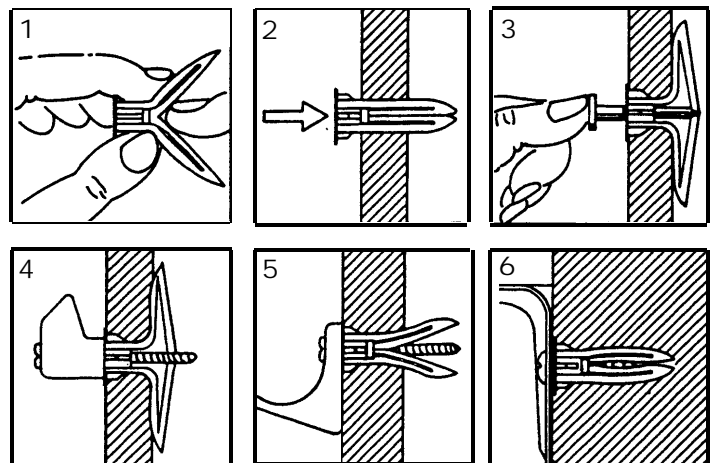

Figure 2-13. Screw Anchor Installation
2. Install screw anchors as described in Figure 2-13; leave about $\frac{1}{4}$ inch of each screw exposed.
2. Install screw anchors as described in Figure 2-13.